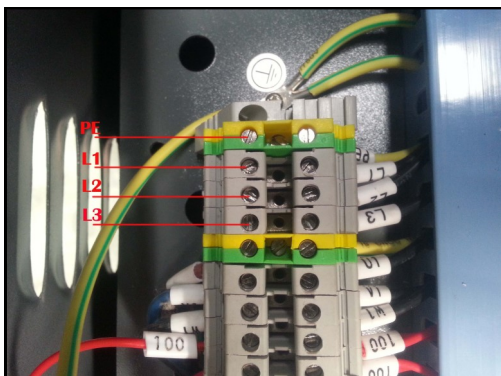

Fig. 16
- Connection of power supply: the 400V three-phase and five-line connection wires (3×2.5mm²+2×1.5 mm² cable wire) for power supply are connected to control box L1, L2, L3, N and entering-wire terminal. The PE ground wire is connected under the bolt marked ground firstly (**Fig. 16**) and then connected under the bolt marked ground of two platforms.